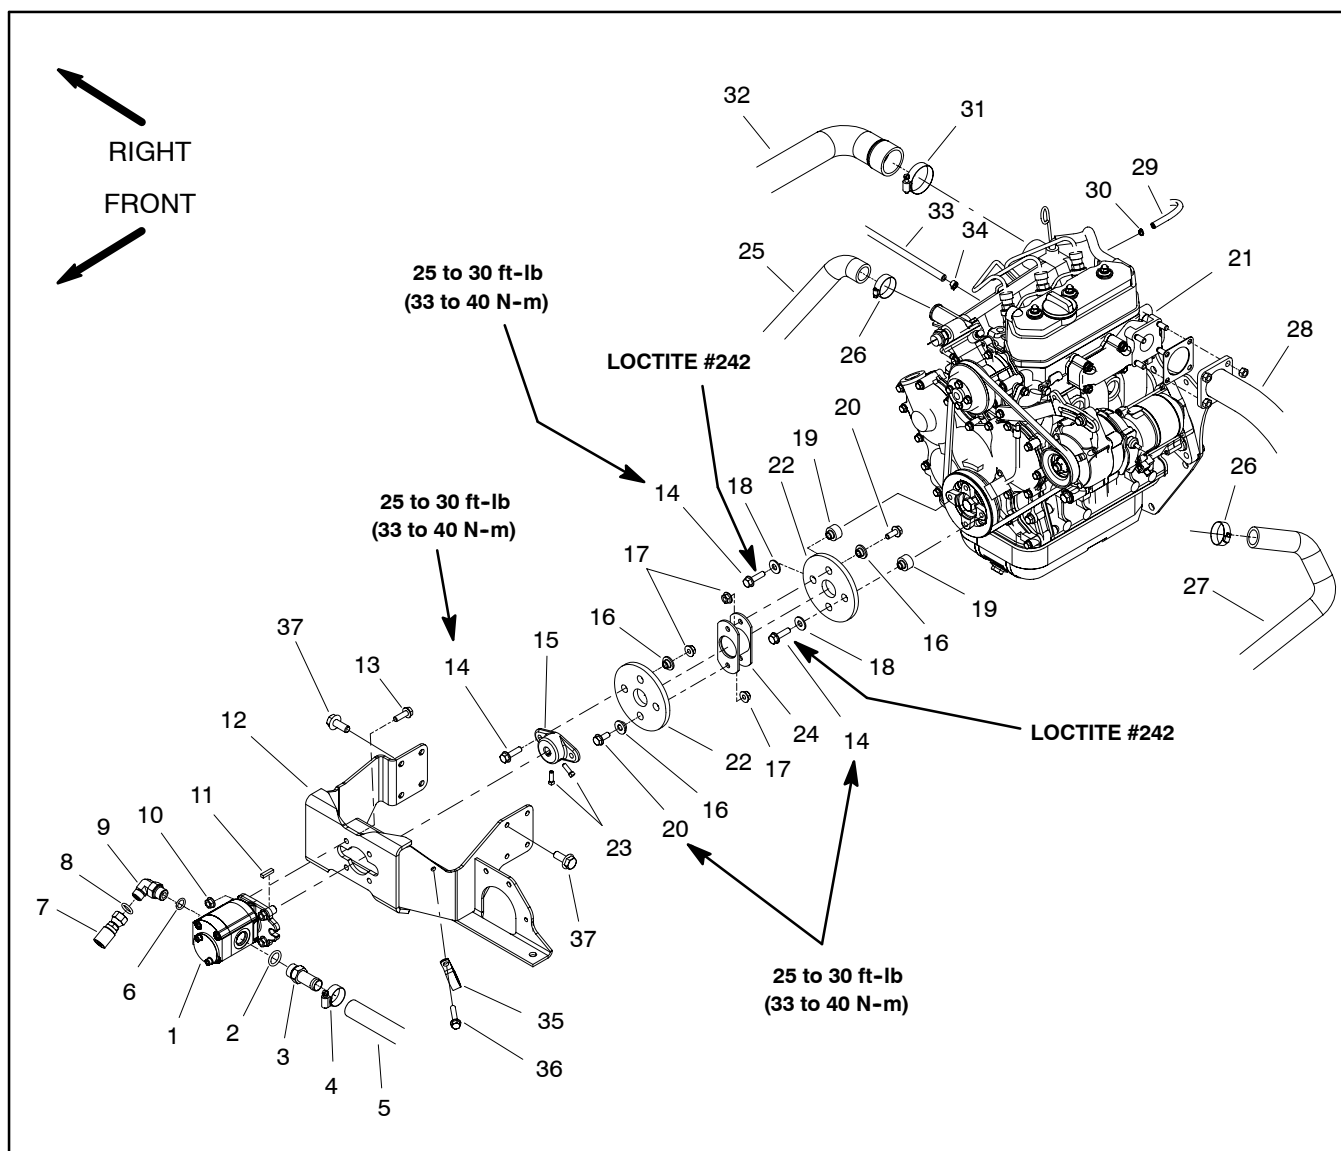
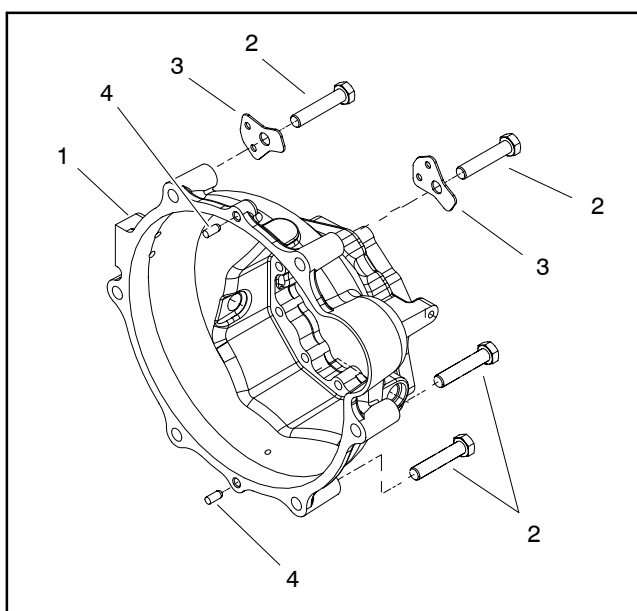

Figure 11
Figure 14
Engine Removal (Fig. 11)
16. Remove six (6) cap screws that secure clutch bell housing to engine. Note location of two (2) harness brackets as cap screws are being removed (Fig. 14).
18. Note location and retrieve two (2) dowel pins from bell housing (Fig. 14).
21. If necessary, remove coupler components from engine pulley using Figure 11 as a guide.
Engine Installation (Fig. 11)
2. If coupler assembly was removed, assemble coupler to engine flywheel using Figure 11 as a guide. Apply Loctite #242 (or equivalent) to threads of flange head screws (item 14) that secure rubber coupler to engine pulley. Torque fasteners to values identified in Figure 11.
3. If engine mount was removed, secure mount to engine with seven (7) flange head screws. Do not install the screw used to secure the ground connections to the engine at this time.
5. Install two (2) dowel pins in bell housing bores (Fig. 14).
8. Secure bell housing to engine with six (6) cap screws and two (2) harness brackets (Fig. 14).